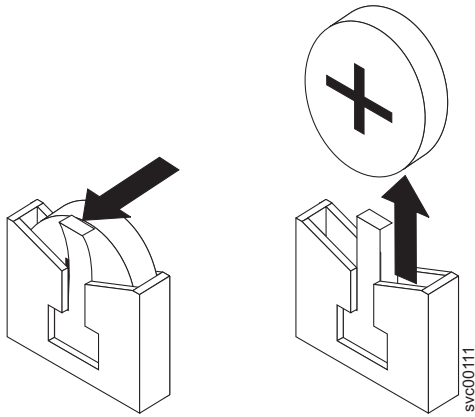

Figure 140. SAN Volume Controller 2145-8F2 or the SAN Volume Controller 2145-8F4 CMOS battery holder
- a. Use one finger to pull the retainer tab, which is shown in Figure 140 on page 134, that secures the battery to its housing.